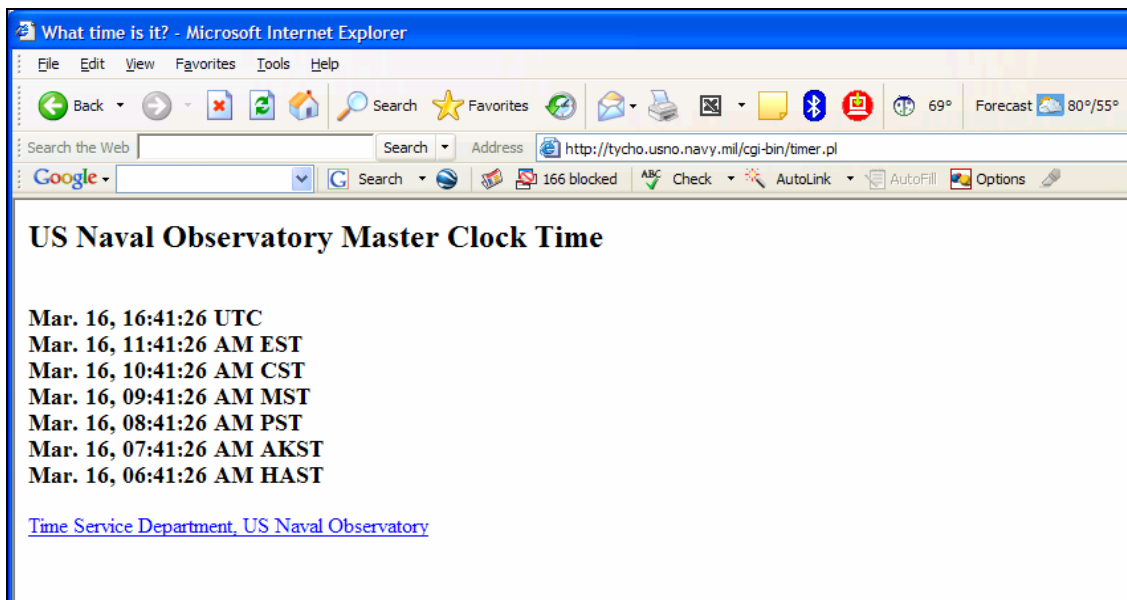

Figure 28. Getting the correct time to enter as the system time
- c. If you need to get the precise Coordinated Universal Time (UTC), you can do so at the following Web site: <http://tycho.usno.navy.mil/cgi-bin/timer.pl> (also shown in Figure 28.).